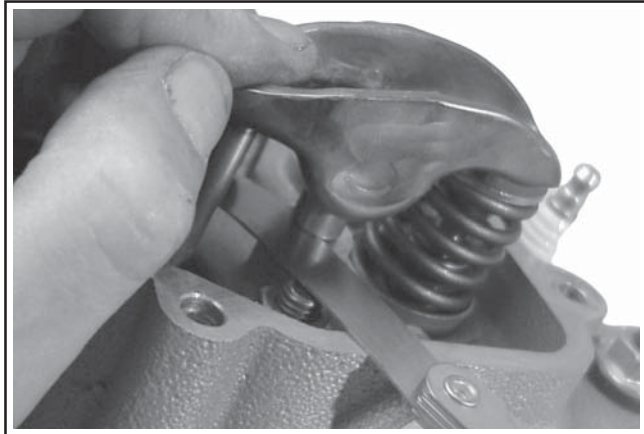

Figure 11-35. Determining Clearance with Feeler Gauge.
11. **While still maintaining pressure on rocker arm/lifter**, use a feeler gauge and determine the existing clearance between the base of the pivot and adjacent surface of the cylinder head. See Figure 11-35. Record this dimension.